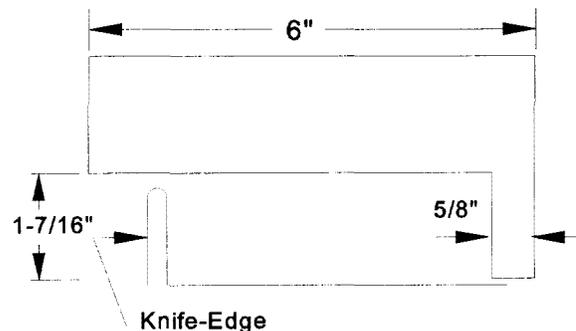

Figure 2-23. Gauge for Measuring
- c. Inspect the entire knife-edge for proper height. A block of aluminum cut to the specifications shown in figure 2-23 is an effective gauge. If the knife-edge is more than 1/8 inch too high or too short, it must be repaired in accordance with step d.